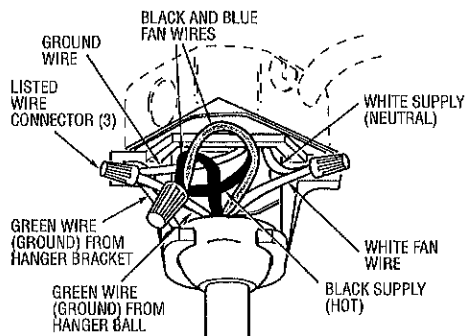

Figure 12
- ☐ 1. Connect the green grounding lead from the hanger ball and the green grounding lead from the hanger bracket to the grounding conductor of supply (this may be a bare wire or wire with green colored insulation). Securely connect wires with wire connectors supplied. (Figure 12.)
- ☐ 2. Securely connect the fan motor white wire to the supply white (neutral) wire using wire connector supplied (Figure 12). Securely connect the fan motor black wire and blue wire to the supply black (hot) wire using wire connector supplied (Figure 12). After connections have been made, turn leads upward and carefully push leads into the outlet box, with the white and green leads on one side of the outlet box and the black and blue leads on the other side of the outlet box.